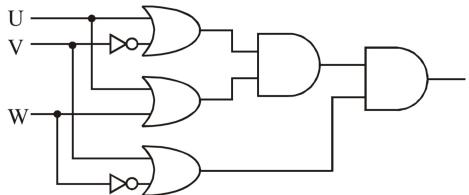

Fig. 3.3
10. Write the Boolean expression for the result of the logic circuit as shown in Fig. 3.3 (CBSE 2016)